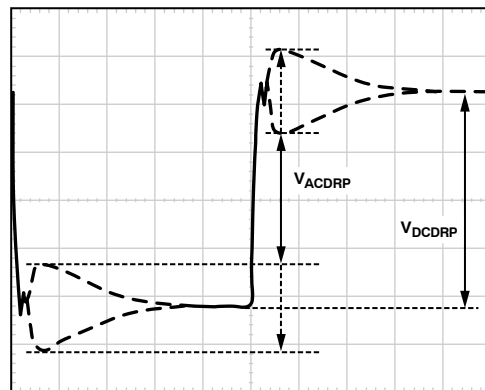

Figure 38. AC Load Line Waveform
5. The resulting waveform will be similar to that shown in Figure 38. Use the horizontal cursors to measure V_{ACDRP} and V_{DCDRP} , as shown in Figure 38. Do not measure the undershoot or overshoot that occurs immediately after the step.